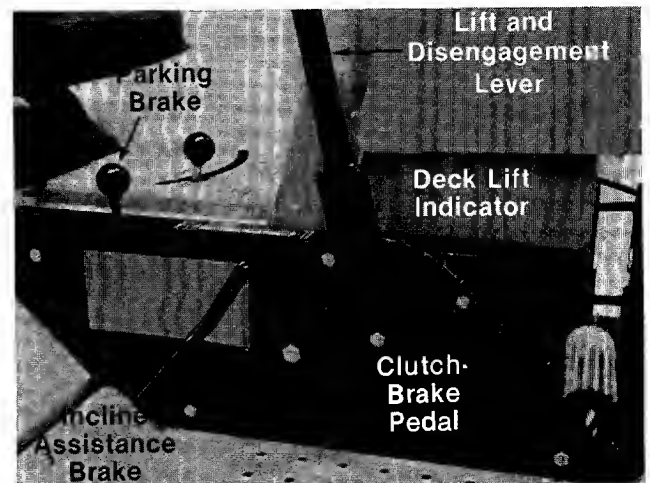

FIGURE 17.
The clutch-brake pedal is located on the right side of the lawn tractor. Depressing the clutch-brake pedal part way disengages the clutch. Pressing the pedal all the way down disengages the clutch and engages the disc brake. See figure 17.
To set the parking brake, depress the clutch-brake pedal and press the parking brake knob down. To release the parking brake, depress and release the clutch-brake pedal. See figure 17.
When stopping on a hill, hold the incline assistance brake lever back while you release the clutch-brake pedal until the lawn tractor begins to move, then release the lever. This lever permits smoother starts by helping hold the lawn tractor while the clutch is being engaged. See figure 17.
The deck lift indicator marks the position being used for the lift lever. Select the lift lever position desired, press the indicator lever outward, move it to the position immediately below the lift lever and release the indicator lever. See figure 17.
3. Depress the clutch-brake pedal and set the parking brake. See figure 17.
4. Place the lift and disengagement lever in the DISENGAGED position. See figure 17.